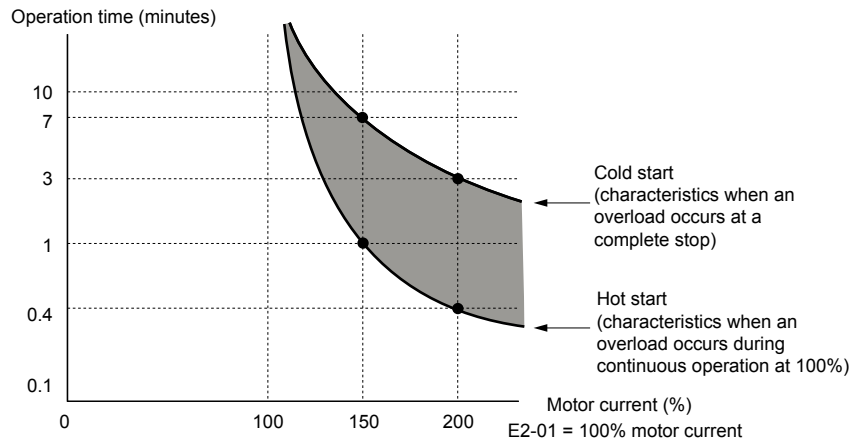

Figure 5.90 Protection Operation Time for General Purpose Motors at the Rated Output Frequency
**Figure 5.90** illustrates an example of the electrothermal protection operation time using a general-purpose motor operating at the value of E1-06, Motor Base Speed, with L1-02 set to one minute.